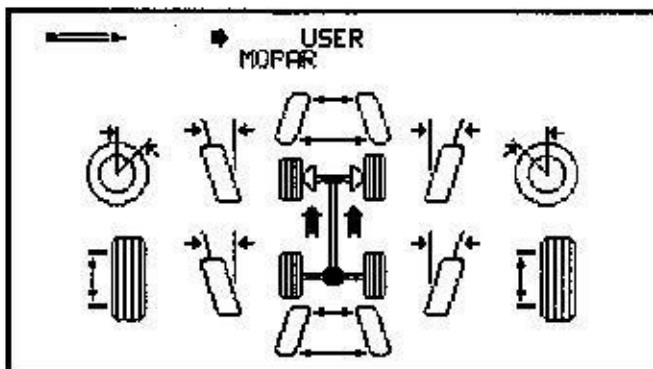

Figure 2-37
- Continue with Steps 3-A and 3-B, above, until all characters have been changed, then press ENTER. The edited text will be displayed (see Figure 2-37) and the heading will change to "User."